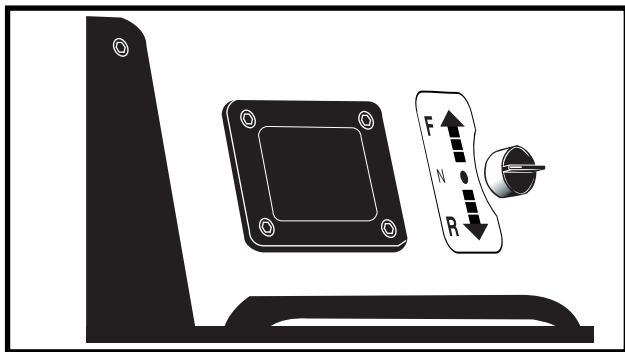

FIGURE 3-16. BACKUP FNR CONTROL SWITCH.
3. Slowly move the FNR switch out of neutral, into the FORWARD position, (away from operator) to move the unit in FORWARD. Adjust engine throttle speed to vary travel speed. If needed, release the FNR switch to slow down, stop and return to NEUTRAL. Slowly move the FNR switch out of neutral, into REVERSE position, (toward operator) to move the unit in REVERSE. Adjust engine throttle speed to vary travel speed. If needed release the FNR switch to slow down, stop and return to NEUTRAL (see figure 3-16).